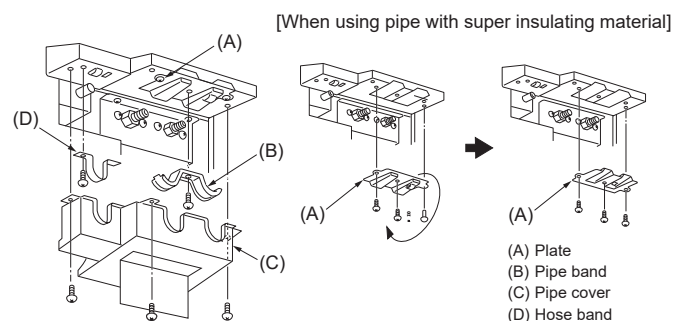

Fig. 4-1
4.1. Remove the Piping cover (Fig. 4-1)